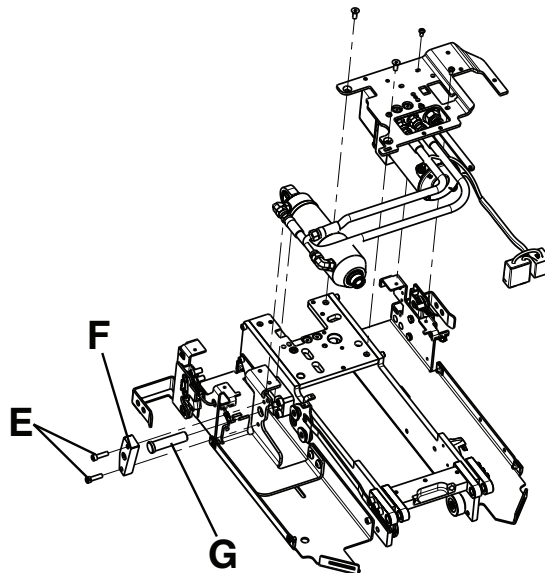

Figure 36 – Hydraulic cylinder pin location
- Using a 3/16" hex wrench, remove the two screws (E) that secure the cylinder bracket (F) to the trolley and remove the end cap cylinder pin (G) (Figure 36).